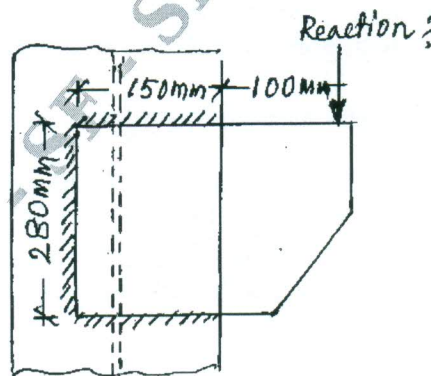

Fig.Q3(c)
- c. A bracket plate of thickness 16mm, is welded to the flange of column ISHB400@759.3 N/m. If the size of weld is 8mm, compute the reaction that can be allowed on the bracket in Fig.Q3(c). (10 Marks)